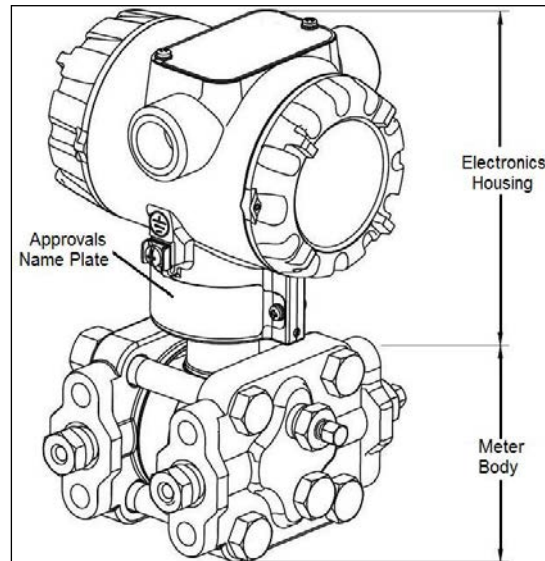
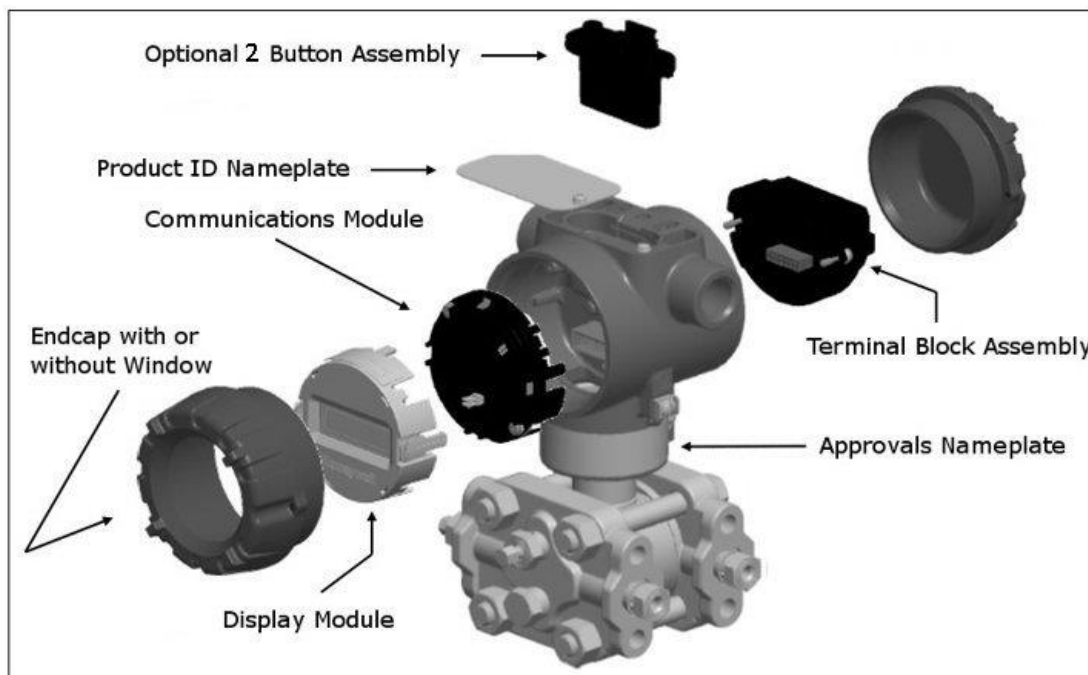
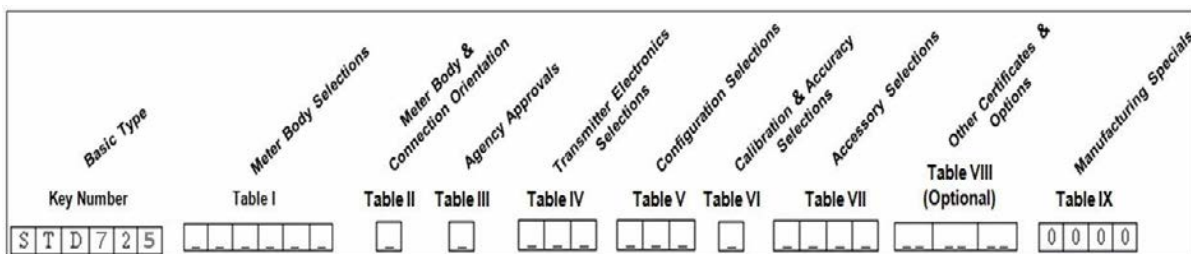

Figure 41 – ST 700 Basic Transmitter - Major Assemblies
Figure 42 – ST 700 Basic transmitter Electronics Housing Components
Figure 43 – ST 700 Basic Transmitter - Name Plate
As shown in Figure 41 the ST 700 basic transmitter is packaged in two major assemblies: the electronics housing and the meter body. The elements in the electronic housing respond to setup commands and execute the software and protocol for the different pressure measurement types. Figure 42 shows the assemblies in the electronics housing with available options.
The transmitter nameplate mounted on the bottom of the electronics housing (see Figure 42) lists its model number, physical configuration, electronics options, accessories, certifications, and manufacturing specialties. Figure 43 is an example of a typical Gauge Pressure (GP) or Atmospheric Pressure (AP) transmitter name plate. The model number format consists of a Key Number with several table selections. The Differential Pressure (DP), Absolute Pressure (AP), and Gauge Pressure (GP) name plates are essentially the same. The DP model provides one additional entry (7 vs. 6) in the meter body Selections (Table I) to accommodate the static pressure rating.
An “approvals” name plate is located on the bottom of the Electronics Assembly; see Figure 42 exact location. The approvals name plate contains information and service marks that disclose the transmitter compliance information.
Zero and Span adjustments are possible in ST 700 basic transmitter with the optional external 2-button and integrated two-button assemblies. See Figure 42 for the external 2-button assembly.